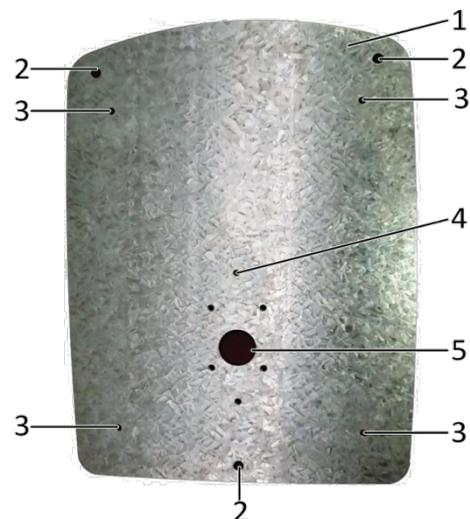

Figure 9: Mounting Plate
12. The mounting plate (1) has the following holes (See Figure 9):
- a. Wall mounting holes (2).
- b. Cover mounting holes (3).
- c. Gooseneck mounting holes (4).
- d. Wiring hole (5).
16. Feed the 220V supply through the centre hole (5).